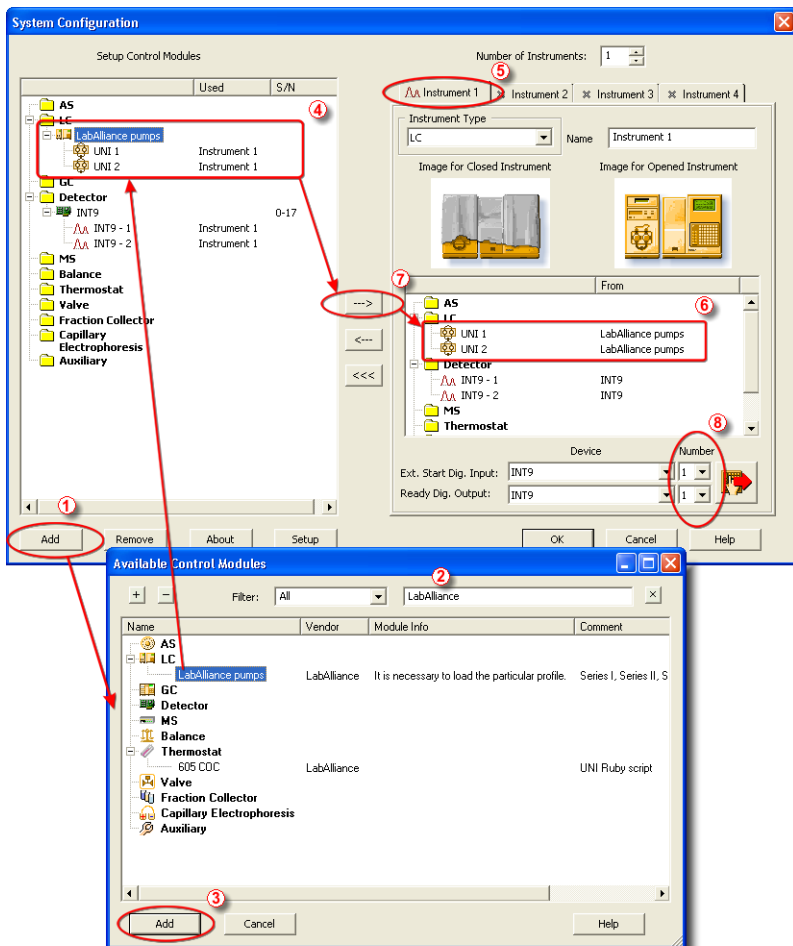

Fig 2: How to add SSI pumps
Start the **Clarity** station by clicking on the  icon on the desktop. Invoke the **System Configuration** dialog accessible from the **Clarity** window using the *System - Configuration...* command. Press the **Add** button ① (see Fig 2 on pg 6.) to invoke the **Available Control Modules** dialog. You can specify the searching filter ② to simplify the finding of the driver. Select the **SSI pumps** item and press the **Add** ③ button.